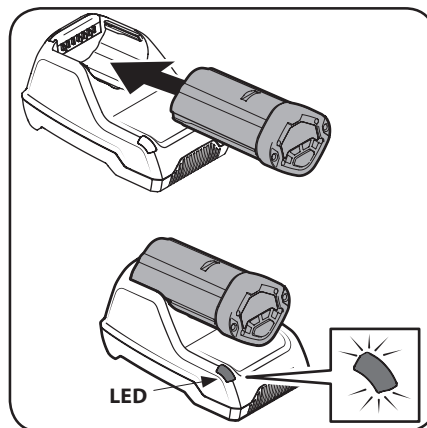

Figure 2-6
- Insert the battery into the charging dock. The LED should illuminate. See Figure 2-6.